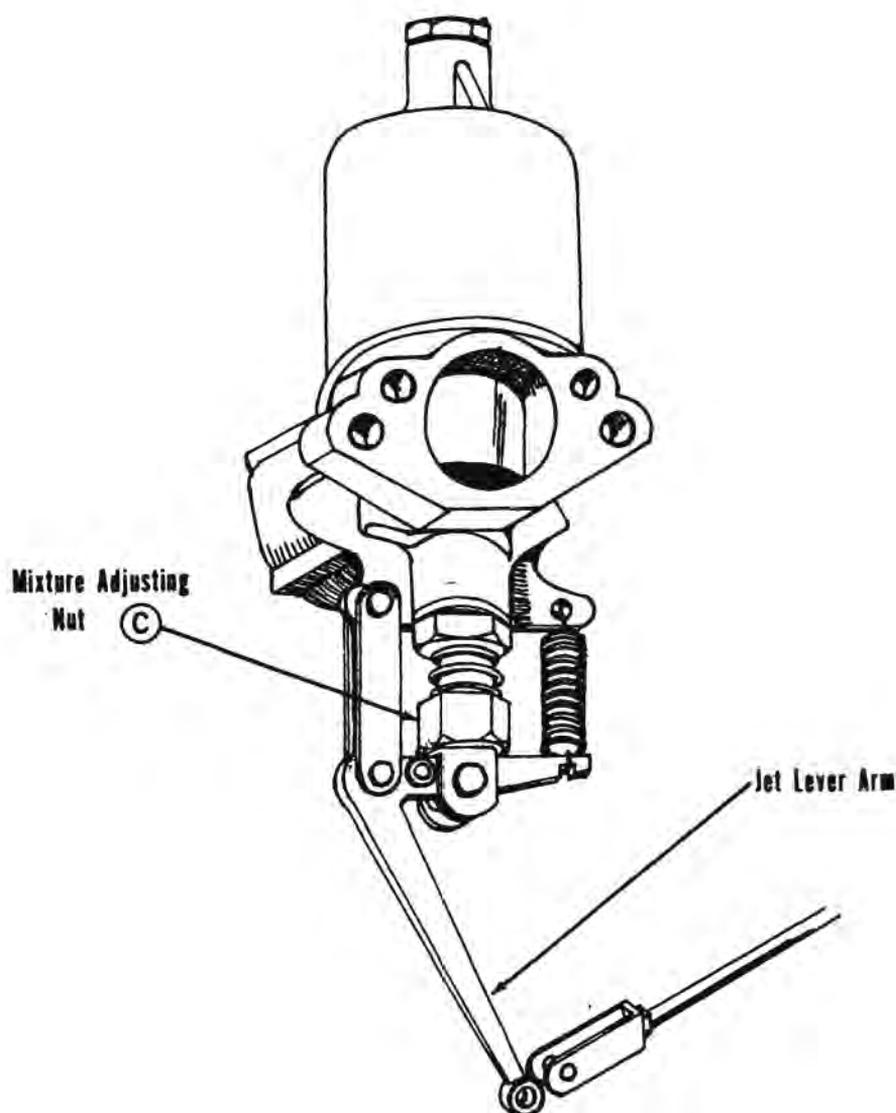

FIG. 42
15. **Mixture Adjustment.** Screw the adjusting nuts C in Figure 42 as far as they will go in a clockwise direction, looking from the bottom of the carburetor. Then back off the adjusting nuts about two and a half turns or about 16 flats of the adjusting nut. This serves as a starting point.